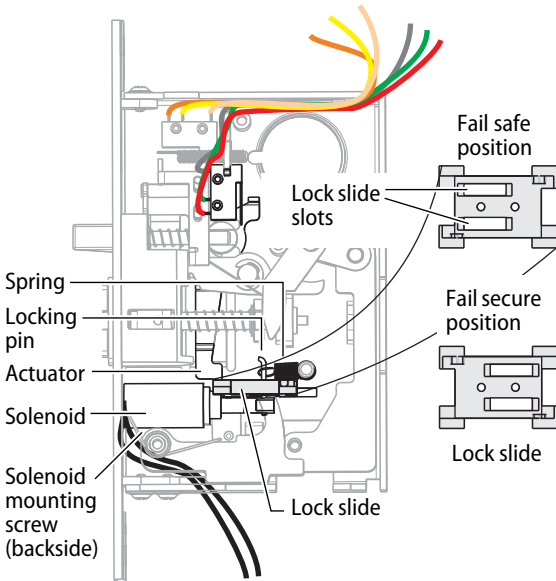

Figure 7 Converting fail safe/fail secure, LSEM303 shown
- 1 Remove the solenoid mounting screw (located on the back side of the view Figure 7).
- 3 Disconnect the spring and remove the lock slide and solenoid. See Figure 7.
**Note:** *Ensure that the actuator is engaged in the lock slide notch. See Figure 7.*
- Check the operation according to Figure 7.